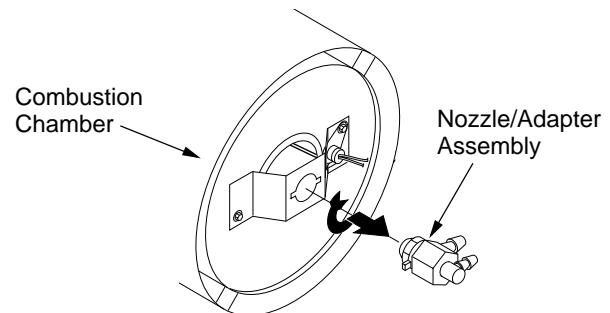

Figure 14 - Removing Nozzle/Adapter Assembly
4. Turn nozzle assembly 1/4 turn to left and pull toward motor to remove (see Figure 14).
10. Attach nozzle assembly to burner strap (see Figure 14).